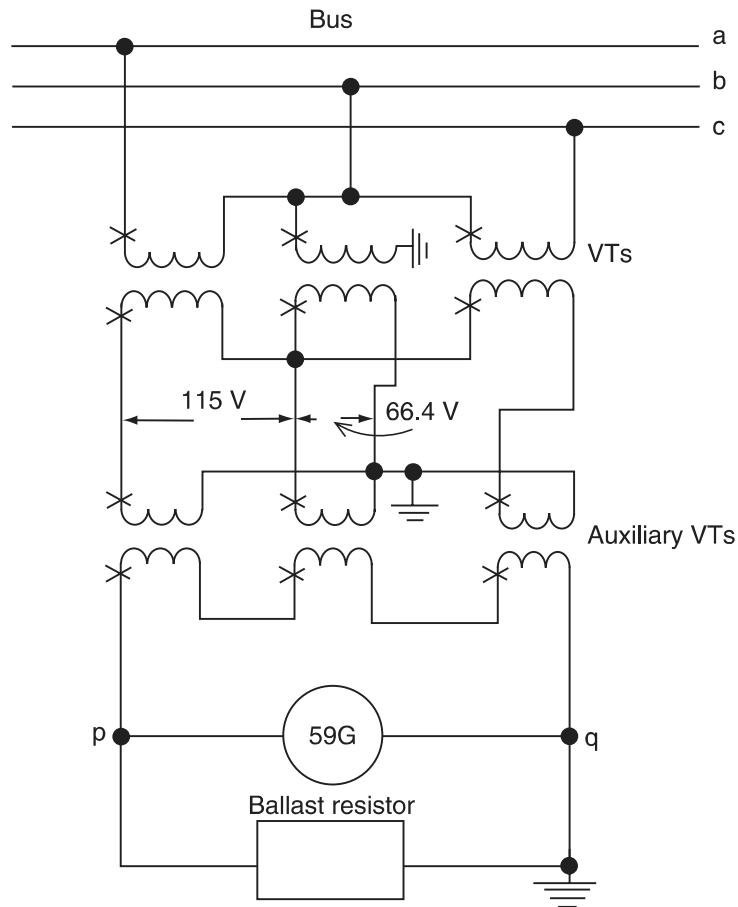

FIGURE P7.3
- 7.3** Verify that the unusual connection of voltage transformers shown in Figure P7.3 provides zero sequence voltage during a ground fault on